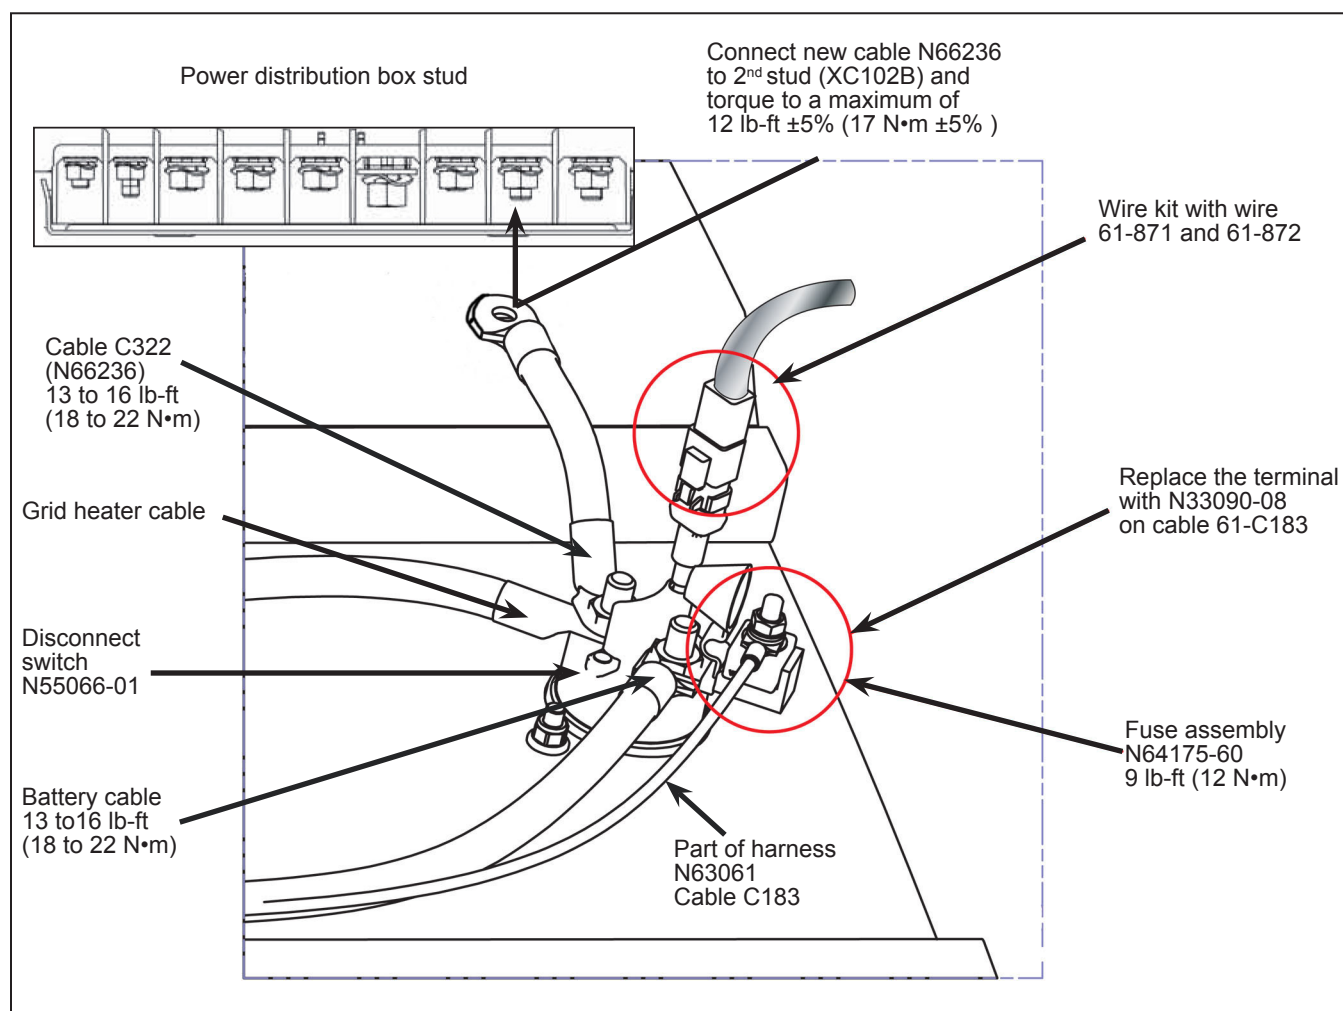

Figure 4 - Modified Installation
- 1.8. Install the disconnect switch N55066-01 in the punched hole using the screws N44885-03 and the nuts N43233. See Figure 4.
- 1.10. Connect cable N66236 (cable C526) on the battery disconnect switch and the second terminal stud (XC102B) of the power distribution box. Apply torque as indicated in Figure 4.
- 1.11. Install the 60'amp fuse assembly N64175-60 at position A1 on the battery disconnect switch. See Figure 4.
- 1.12. Connect the wire kit on the disconnect switch. See Figure 4.
- 1.17. Install the new terminal N33090-08 on cable 61-C183. See Figure 4.
- 1.18. Connect cable 61-C183 to the fuse assembly N64175-60. See Figure 4.